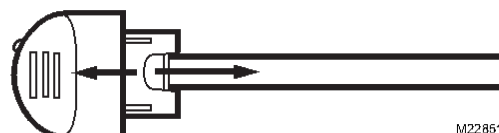

Fig. 2. Disconnect bulb from SnapLamp™ handle.
5. If you have a SnapLamp™ handle, follow steps 5 and 6; otherwise, proceed to step 7. Grasp the SnapLamp™ handle in one hand and the bulb glass in the other and pull straight apart. See Fig. 2.